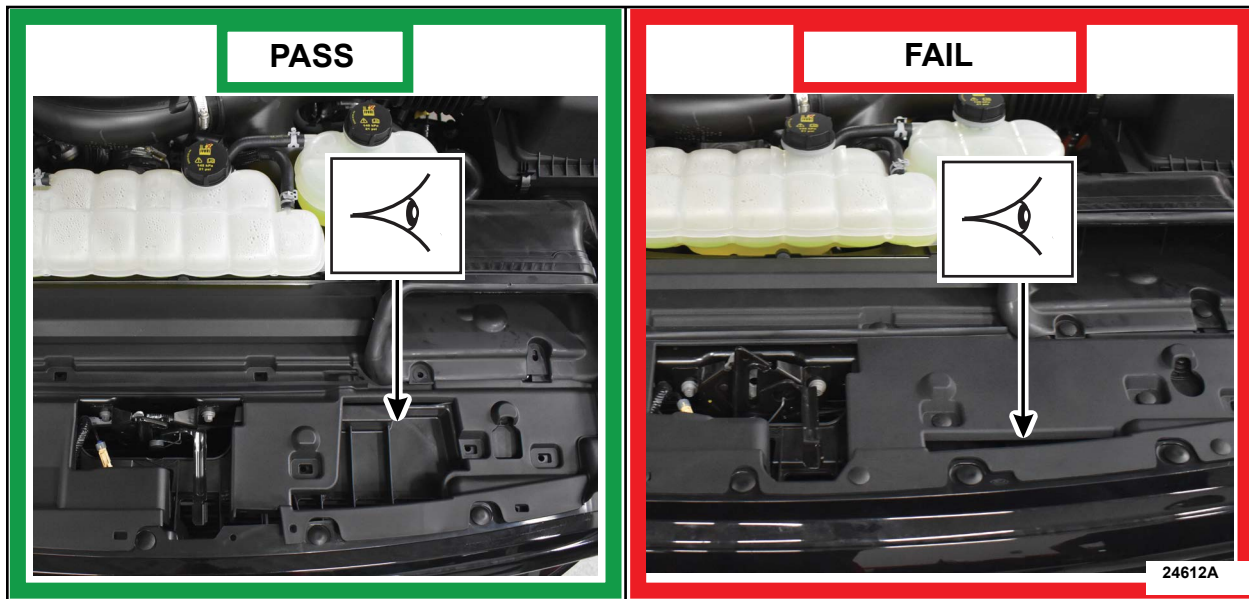

FIGURE 1
1. Visually inspect the upper radiator air deflector. Does the upper radiator air deflector vent hole Pass or Fail the inspection? See Figure 1.